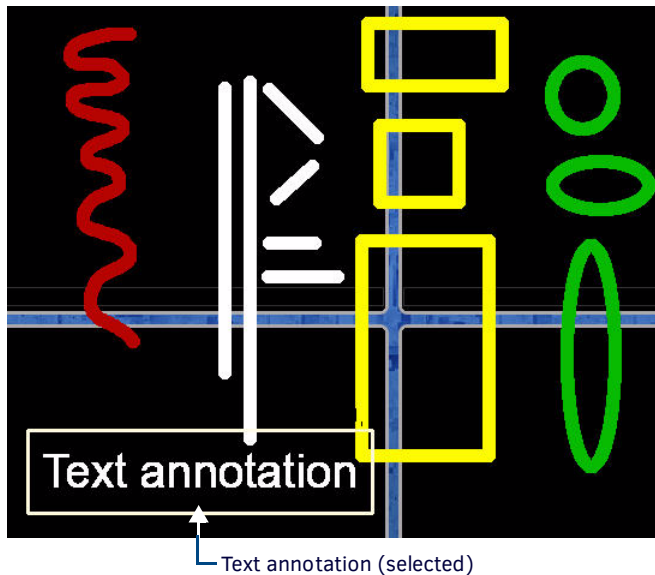

FIG. 107 Text annotations example
6. The text is displayed on-screen (FIG. 107).